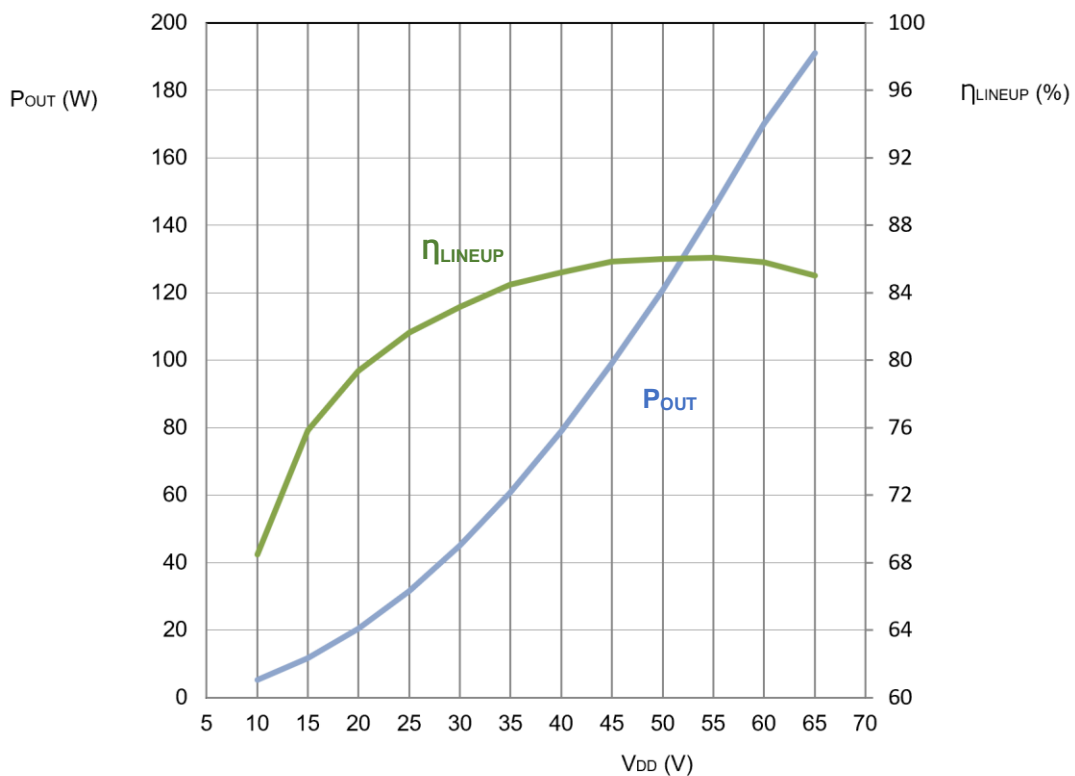

Figure 3 Output power and lineup efficiency as a function of drain voltage
- Figure 3 Output power and lineup efficiency as a function of drain voltage 7